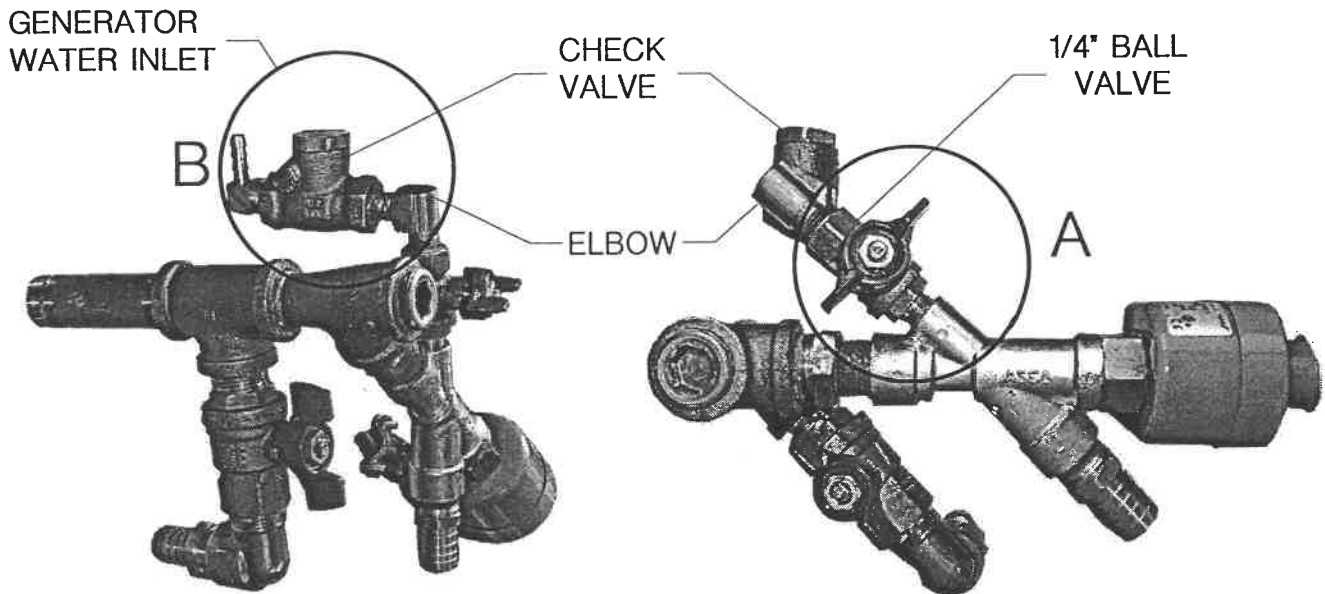

Figure 3
- 8) Remove the handle from the ball valve removed in step 7 and install the ball valve on the 1/4" port of the drain valve (circle A in Figure 3). Do not allow pipe sealant to clog the drain valve. Reinstall the valve handle.
- 9) Install the 1/4" elbow supplied with the kit on the ball valve installed in step 8 (circle A & B in Figure 3).
- 10) Install the generator water inlet (nipple, check valve, hose barbs fitting) removed in step 6 into the 1/4" elbow installed in step 9 (circle B in Figures 3). Important: The check valve must be installed in on upright position as shown in Figure 3 in order to operate properly!